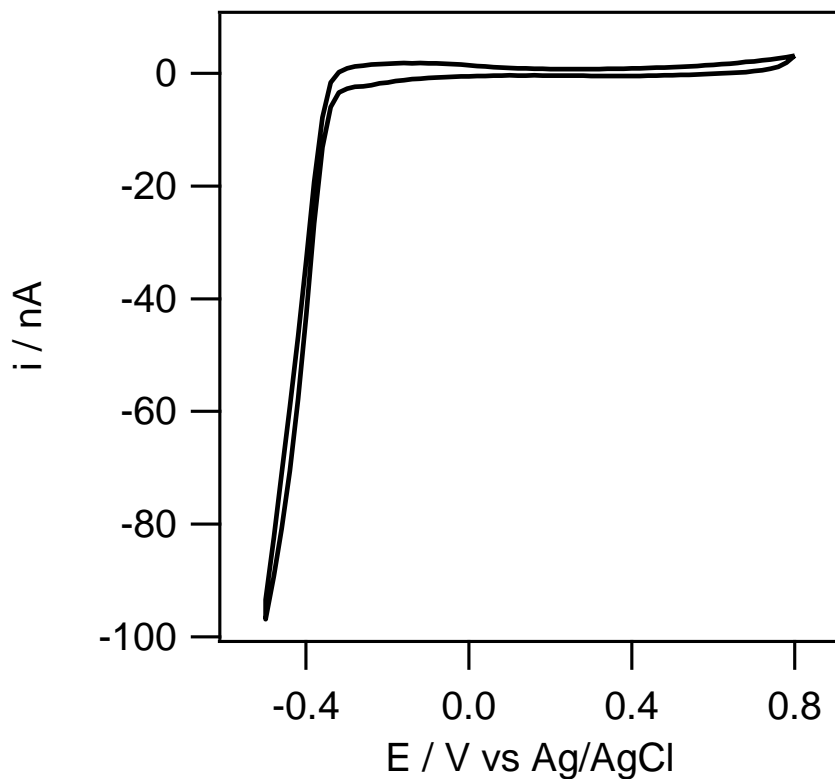

Fig. S1
**Fig. S1.** Cyclic voltammetry in  $\text{HNO}_3$  (pH 2), 0.01 M  $\text{NaNO}_3$  on an IrM at 50 mV/s, with initial and reversal potentials of -500 mV and +800 mV vs. Ag/AgCl, respectively.  $E_{\text{dep}} = -300$  mV.